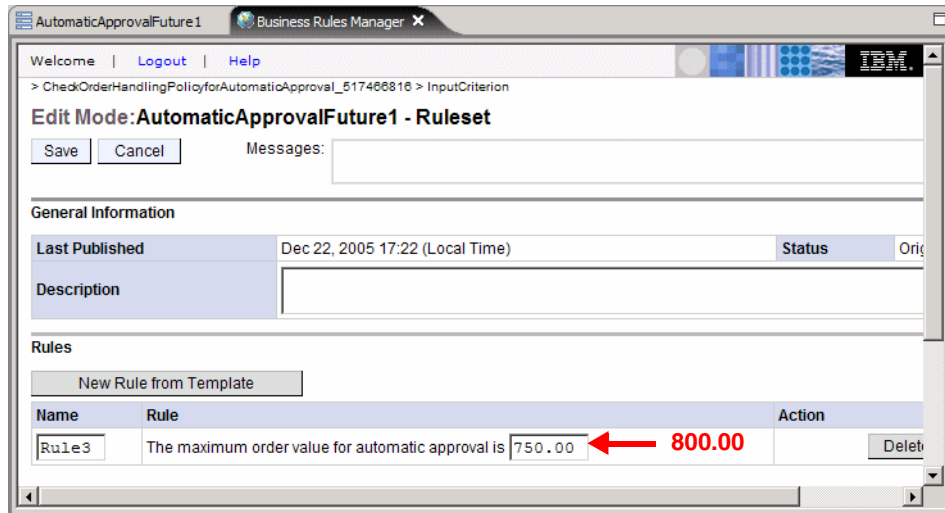

Figure 11-9 Changing a business rule at runtime
- ▶ Click *Edit* (Figure 11-9).